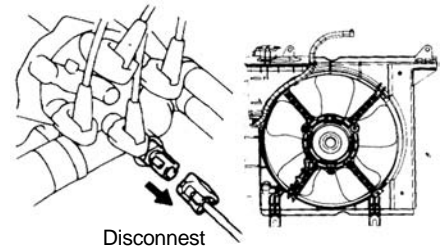

Figure 122
- (1) Check the cooling fan operation with low temperature (Lower than 83° C)
- (c) Pull out the water temperature sensor connector. See (Figure 122)
- (2) Check the cooling fan operation with high temperature (over 93° C)